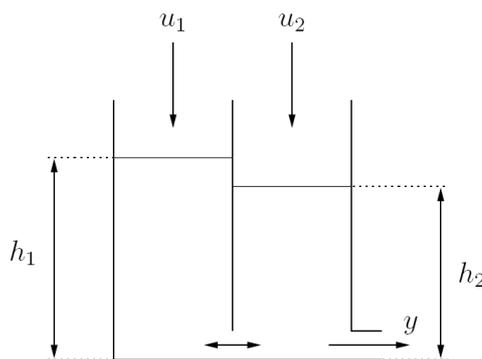

Figure 2.7
2.6 Consider a water tank with a separating wall. The wall has a hole at the bottom, as can be seen in figure 2.7.